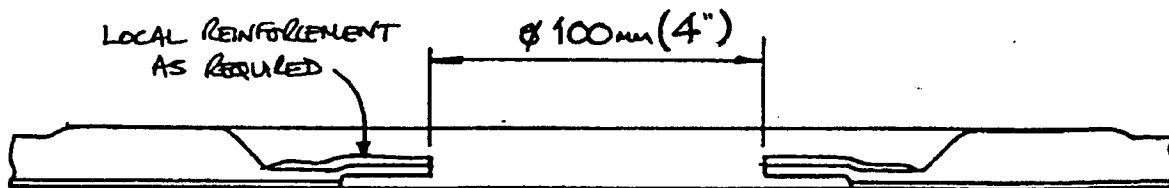

Fig. 5 - Flange trimming
7. After cure, remove the panel and trim the flange around the hole to about 12 - 13mm (1/2") in width - (figure 5).